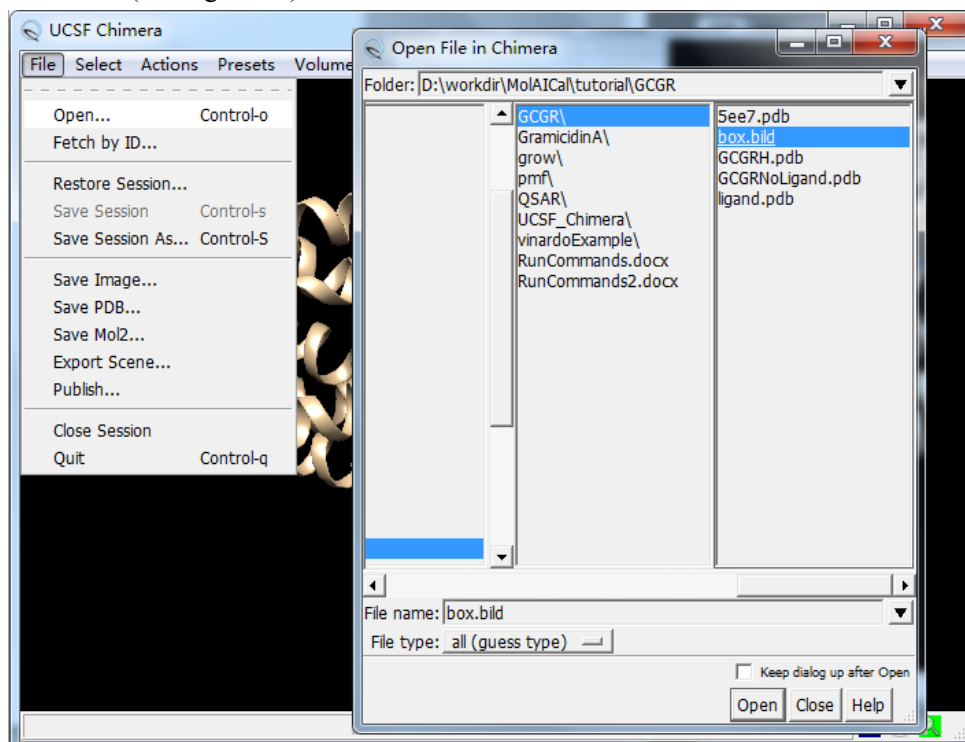
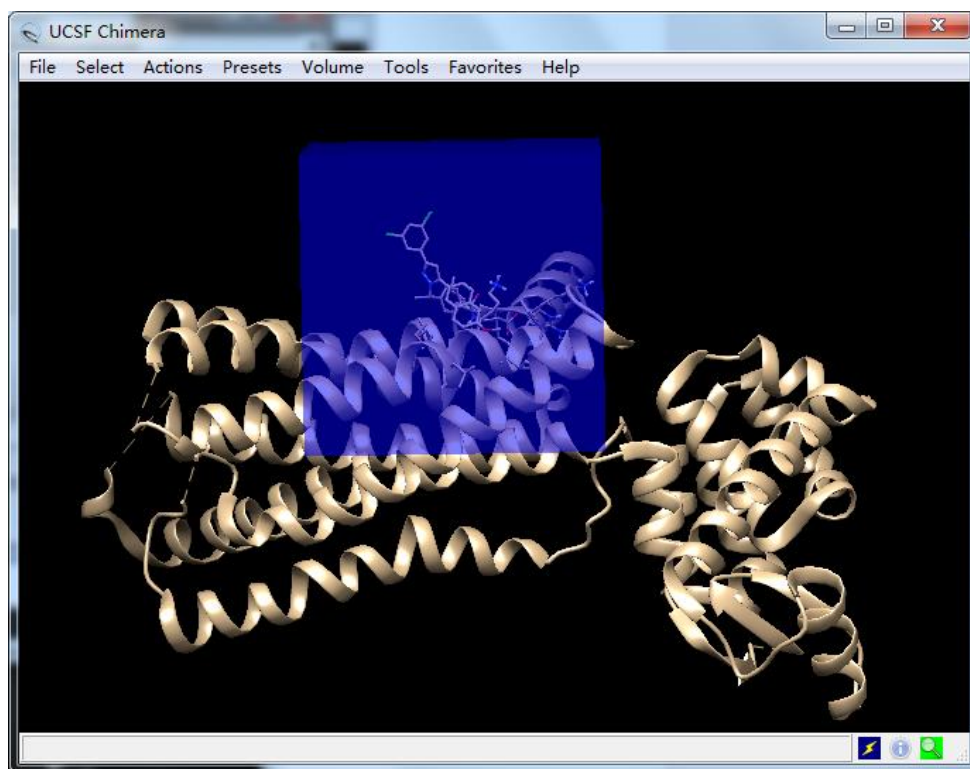

Figure 20. Opening box.bild.
Figure 21. Showing the box in the pocket of GCGR.
- 2) File→open, then open “box.bild” (see Figure 20), and check whether the generated box is suitable (see Figure 21).